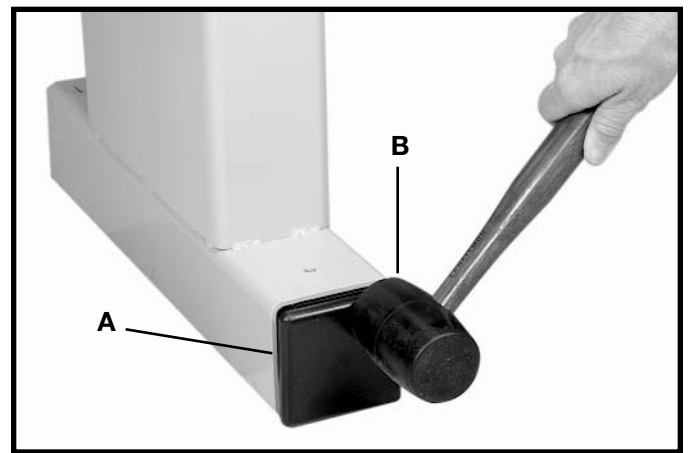

Fig. 10
The lathe is supplied with four leg inserts, one of which is shown (A) Fig. 10.
To attach the leg inserts to the pedestals, place one side in the hole provided and gently tap the other side, top, and bottom with a rubber mallet (B) Fig. 10.